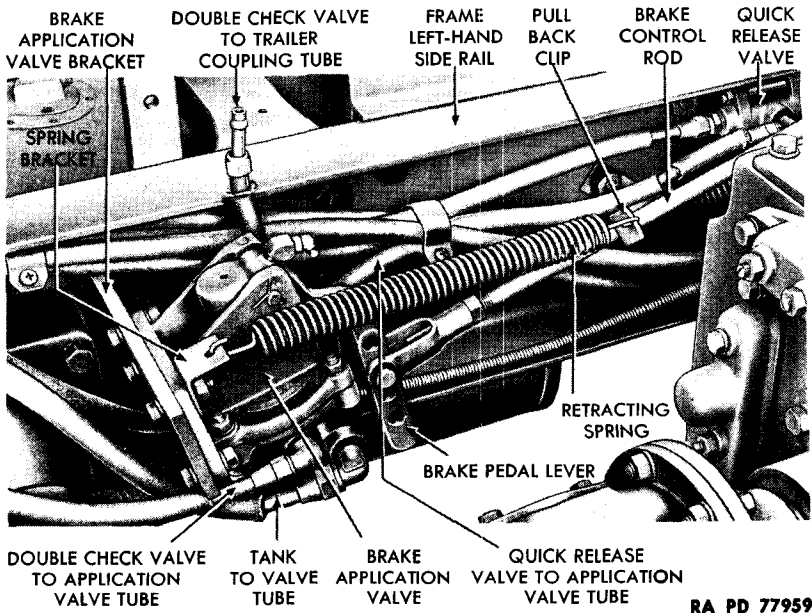

Figure 66 – Brake Application Valve Installed
(1) DESCRIPTION (fig. 66). The brake application valve is mounted on a bracket on inside of main frame left-hand side rail under front edge of frame platform, and is connected by a rod to the brake pedal. When pedal is depressed, the valve admits air to brake diaphragm chambers to operate brakes. When pedal is released, the valve exhausts pressure from brake diaphragm chambers to release brakes. Amount of pressure built up or exhausted is in direct proportion to amount of pedal travel.
b. Removal (fig. 66).
(1) DETACH BRAKE CONTROL ROD. Snap retracting spring from pull-back clip on brake control rod and from bracket on valve. Remove cotter pin, flat washer, and clevis pin which attach rod to valve.
(2) DISCONNECT AIR LINES. Disconnect all three air tubes from fittings on valve.
(3) DETACH VALVE FROM BRACKET. Remove all four nuts, lock washers, and bolts which attach valve to bracket. Lift valve and spring bracket from valve bracket.
c. Installation (fig. 66).
(1) ATTACH VALVE TO BRACKET. Position valve on bracket, and install the four bolts, lock washers, and nuts which attach valve to bracket. Place spring bracket under nut and washer on top right bolt.
(2) CONNECT AIR LINES. Connect double check valve to application valve tube to fitting on right-hand side of valve. Connect tank to valve tube to fitting on bottom of valve. Connect quick release valve to application valve tube to fitting on left side of valve.